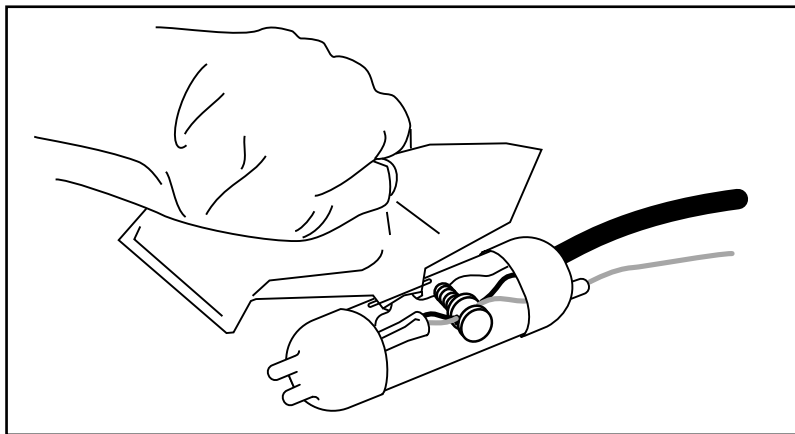

Figure 40. Pouring Sealing Compound Into Sleeve
6. Once the mixture feels warm, immediately cut one corner and slowly fill the surge protector's plastic sleeve. Stop just short of filling the entire sleeve. Do not overfill. [Figure 40].